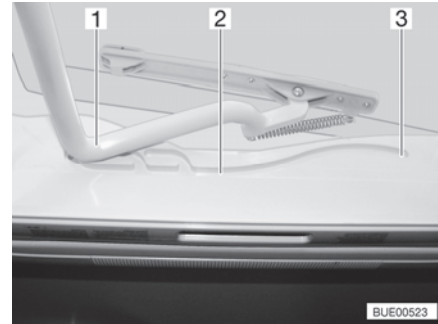

Fig. 54 Guide (Heki skylight)
- Pull the bar (Fig. 54,1) in the guides (Fig. 54,2) to the rearmost position (Fig. 54,3).
- Use both hands to push the bar (Fig. 54,1) slightly upwards.
- Pull the bar in the guides (Fig. 54,2) to the desired position.